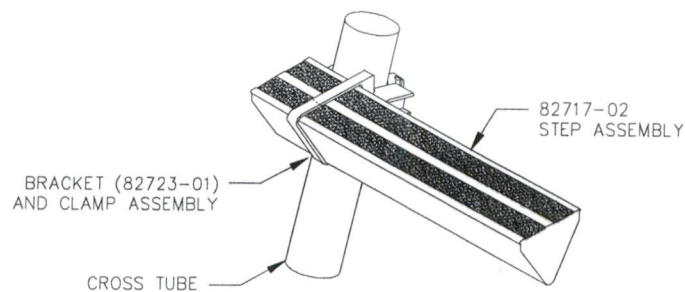

Figure 25-8 – Aft Step Attachment
3. Slide clamp and bracket (82723-01) assembly along step until clamp can be attached to forward cross-tube. Bracket can be opened with a flat head screwdriver if necessary. Repeat at aft cross tube. See Figure 25-8